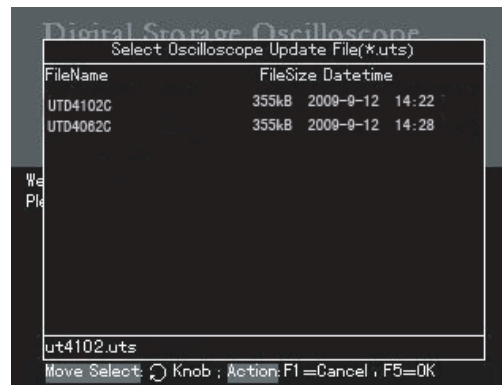

Figure 5-2 Selection of the USB upgrade document
4. When [F5] is pressed as shown in Figure 5-2, the following prompt will appear : Are you sure to update? (F5=Yes,F1=No)
If the upgrade document on the USB device is incorrect, update will fail upon selecting the upgrade document by pressing [F5] (Figure 5-2). You will see the prompt : “Sorry, the package format isn’t correct”. Save a correct document on the USB device and repeat the previous steps for upgrade.